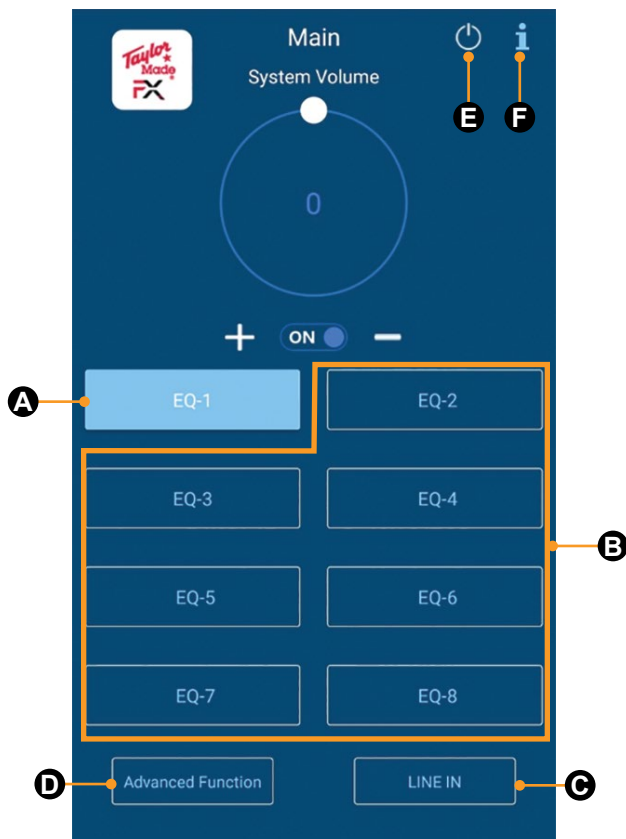

Fig.13
5. Open the app and establish sync to DSP (Fig.13).